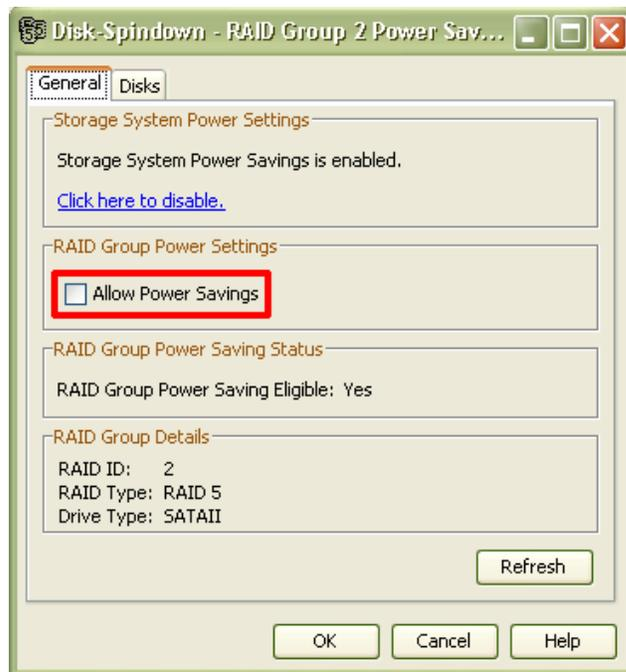
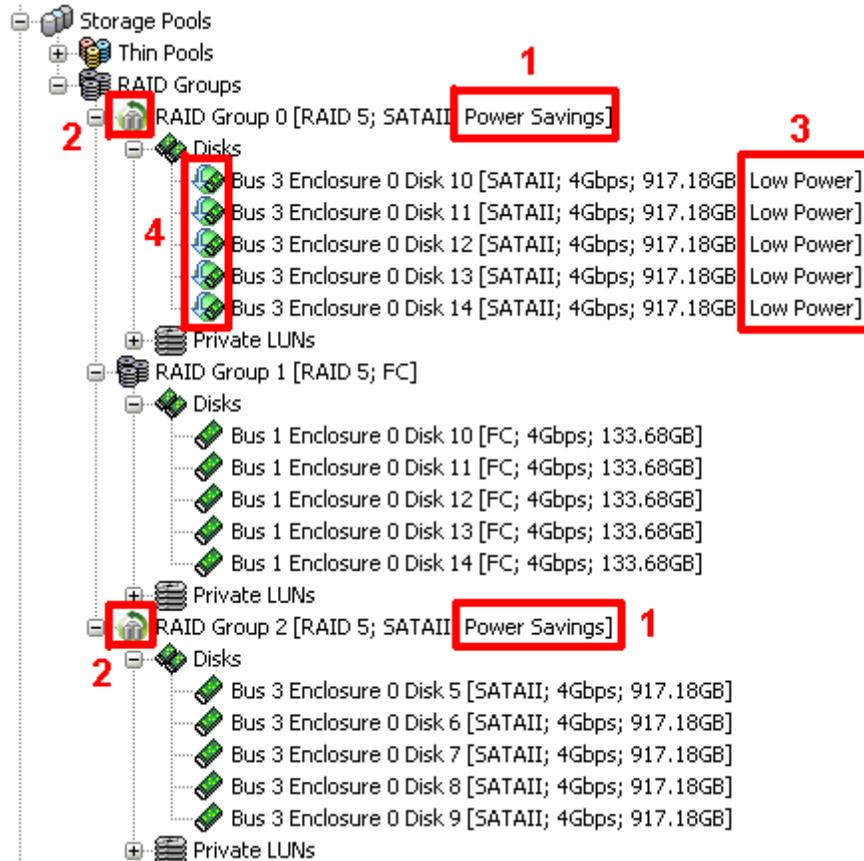

Figure 5. Disk-Spindown – RAID Group Power Savings dialog box: Enabling disk spin down on existing RAID groups
Figure 8. Navisphere Manager tree view
- Click a RAID group link (in the Storage Pool column) to open the **RAID Group Power Savings** dialog box if you wish to configure settings for that RAID group. This dialog box is shown in Figure 5 on page 10.
To view and configure spin-down settings for an already existing RAID group, right-click the RAID group name in the Navisphere tree view (shown in Figure 8 on page 14), and select **Power Savings...** in the right-click menu to open the **Disk-Spindown – RAID Group Power Savings** dialog box, shown in Figure 5. This dialog box allows you to:
Navisphere allows you to read spin-down related information at the drive level; you cannot change settings at this level. To view this information, right-click the disk name in Navisphere tree view (shown in Figure 8), and select **Properties...** to open the **Bus Enclosure** dialog box. Select the **Power Settings** tab as shown in Figure 6.
Navisphere Manager displays disk-drive Spin Down information in the tree view shown in Figure 8. Note that: